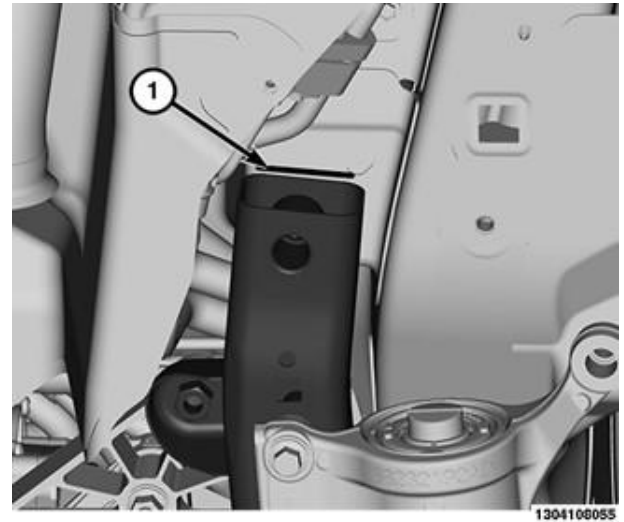

Figure 50 – Mark Crossmember
75. Using a marker or equivalent, mark the position of the crossmember on the vehicle body (1) (Figure 50).
100. Align the crossmember assembly to the reference marks and install the **NEW** bolts then tighten to 160 N·m (118 ft. lbs.) (Figures 50 and 51).